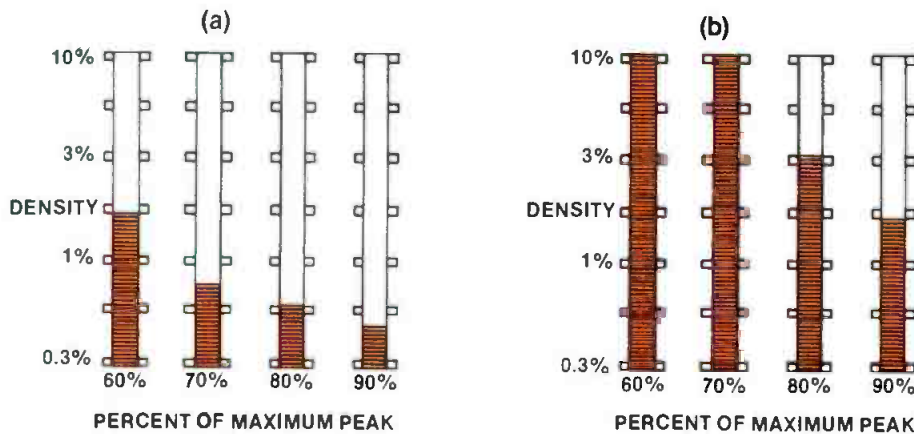

Figure 5. A density bar-graph display for a station with (a) light audio processing and (b) heavy processing.
indication of the station's control of modulation. The percentage of time peaks, which exceed a certain modulation percentage, is referred to as *peak density*. A readout technique that graphically displays the amount of time certain specified peak values are exceeded is shown in Figure 5.
Four bar graphs are arranged so that each is reading the activity occurring at specific peak thresholds. For example, the left-hand portion of the bar graph shown in Figure 5(a) indicates the amount of time the audio waveform exceeds 60% of its maximum peak value. The scale is logarithmic, with 10% of the time set as the top of the bar graph and 0.3% established as the bottom of the bar graph. The other bar graphs operate similarly, representing the percentage of time the input waveform exceeds 70%, 80% and 90% of the maximum peak amplitude of the modulating waveform.
The display shown in Figure 5(A) indicates that peaks are exceeding 60% of the maximum peak value approximately 2% of the time, 70% of the maximum peak value 0.6% of the time, 80% of maximum peak value 0.5% of the time and 90% or greater peaks about 0.4% of the time.
When measuring a highly processed signal, the picture looks very different. In Figure 5(b), notice that 60%, as well as 70%, of peak value occurs more than 10% of the time, 80% of peak 3% of the time and 90% of peak threshold 2% of the time. This means the modulation waveform has been substantially processed and clipped, pushing the waveform up so that it occupies higher peak values more often.